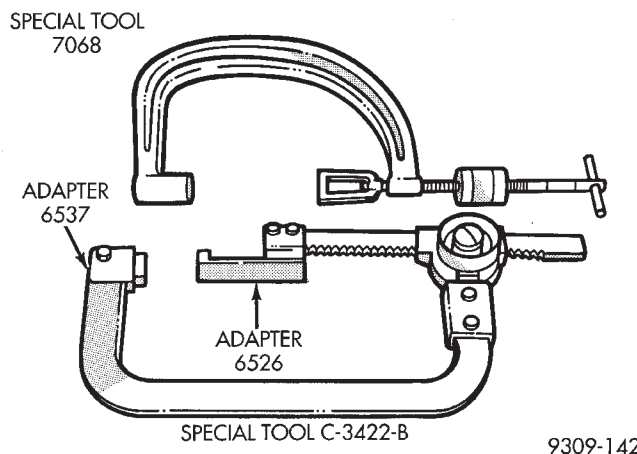

Fig. 21 Valve Spring Compressors
(1) With cylinder head removed, compress valve springs using the Valve Spring Compressors shown in (Fig. 21).
(2) Remove valve retaining locks, valve spring retainers, valve springs and valve spring seat/stem seal assembly.
(3) Before removing valves, **remove any burrs from valve stem lock grooves to prevent damage to the valve guides.** Identify valves to insure installation in original location.